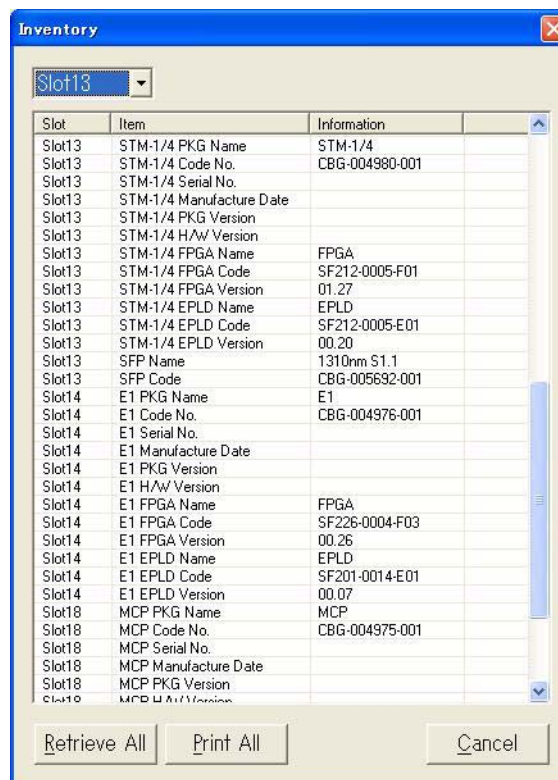

Fig. 4-8-5 Inventory
- 3 Select **Inventory** from the **Maintenance** menu. The **Inventory** dialog box shown in Fig. 4-8-5 appears: